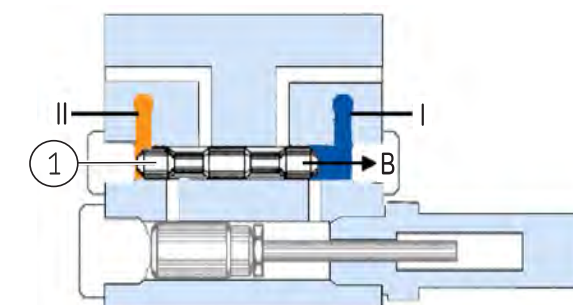

Fig. 3
At the same time, the changeover valve connects main line II to the pump, and the pressure rises in that line. The control piston (Fig. 3/1) now moves in the direction of the arrow (B) and the lubricant in front of the control piston is supplied to the relieved main line.